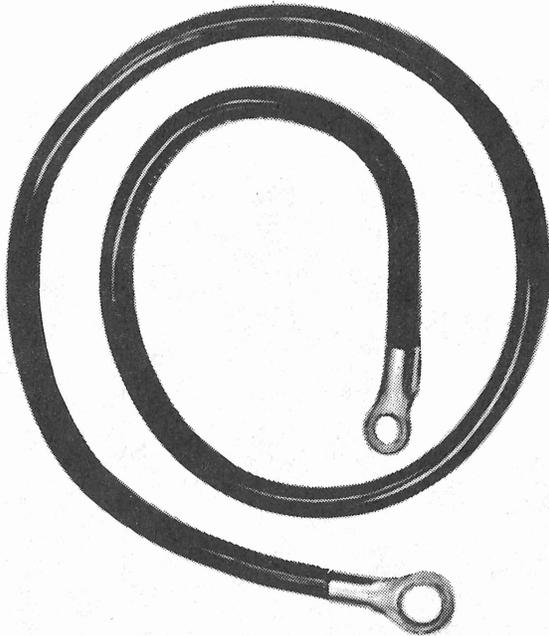

Figure 40. Long Ground Strap
24.01 The Long Ground Strap (28-inch, No. 6 AWG) is used to connect the C-377 Connector ground screw terminal of the lowest Connector in any MDF to the MDF copper ground bus (see figure 40).